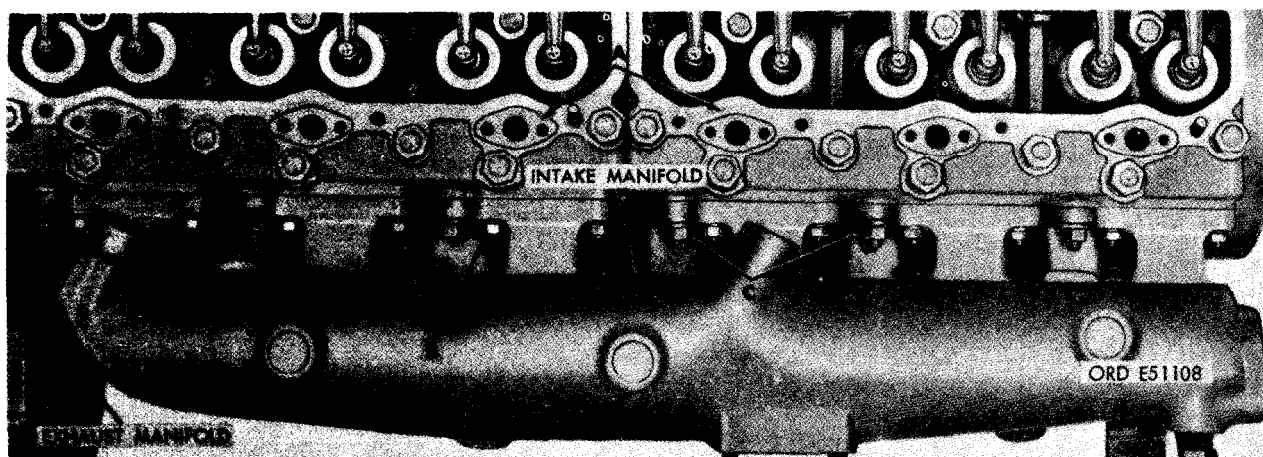

FIGURE 266. DISCONNECTING OR CONNECTING INTAKE AND EXHAUST MANIFOLDS AT CYLINDER HEAD ASSEMBLIES - TOP VIEW.
- (2) Figure 266. (A) Remove and discard six cylinder head water outlet manifold gaskets. (B) Remove twelve 5/16-inch plain nuts and 5/16-inch flat washers securing top flanges of intake manifold to cylinder head assemblies. (C) Remove six 7/16-inch self-locking nuts